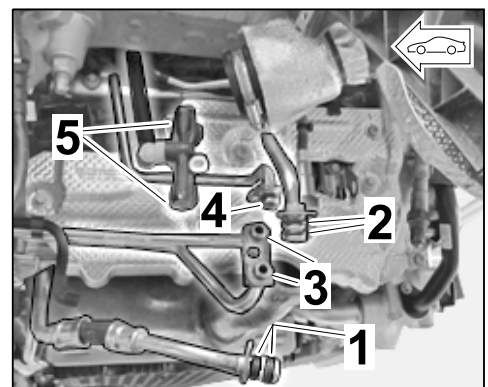

Figure 24
3.2 Replace all seals and O-rings on the lines for the turbocharger (cyl. 1–3 ⇒ *Figure 24*/cyl. 4–6).